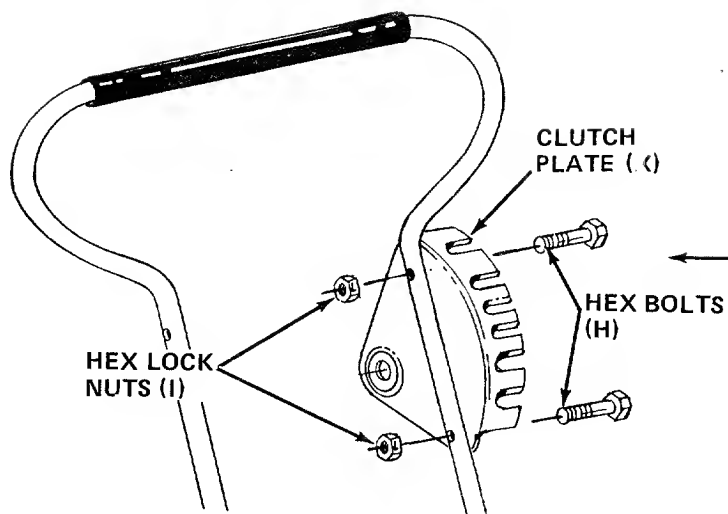

FIGURE 6
7. Place clutch plate (X) on the left hand side of the upper handle as shown in figure 6. Secure in place with hex bolts (H) and hex lock nuts (I).